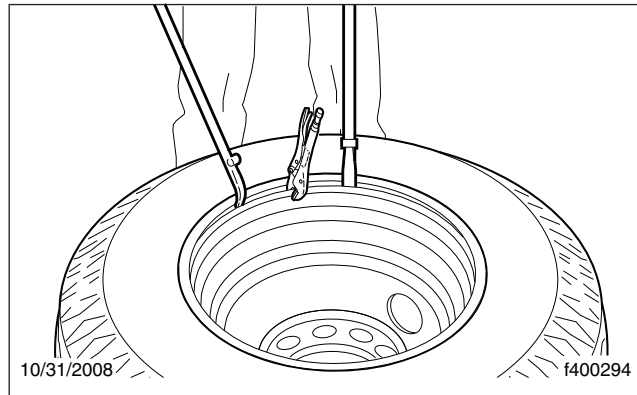

Fig. 11, Working the Upper Bead into the Wheel
- 4.2 Using the spoon end of the tire iron, and with the stop toward the wheel, work around the bead. See Fig. 11. Work small sections, until the bead slips over the flange and into the wheel well.